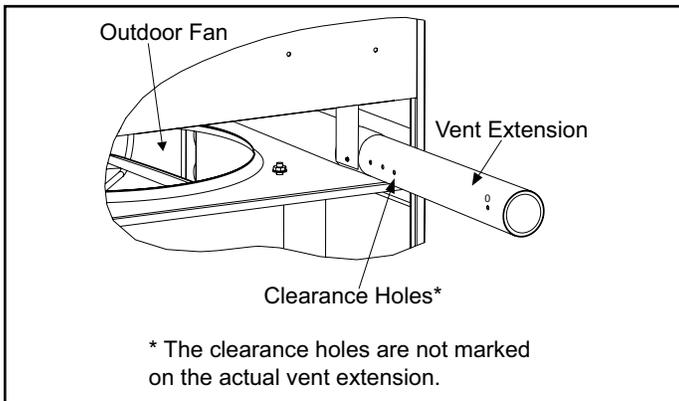

Figure 4. Positioning Vent Pipe Extension
- Five holes have been drilled into the vent extension (see Figure 4). Four of those holes are provided so that the vent can be extended the necessary length required for the installation. The wall sleeve that is installed determines which of these clearance holes should be used. Using Table 2 and Figure 4, determine which clearance hole should be used to position the vent extension properly. Slide the vent extension outward and line up the correct clearance hole on the vent extension with the hole in the vent pipe and the hole in the mounting bracket.